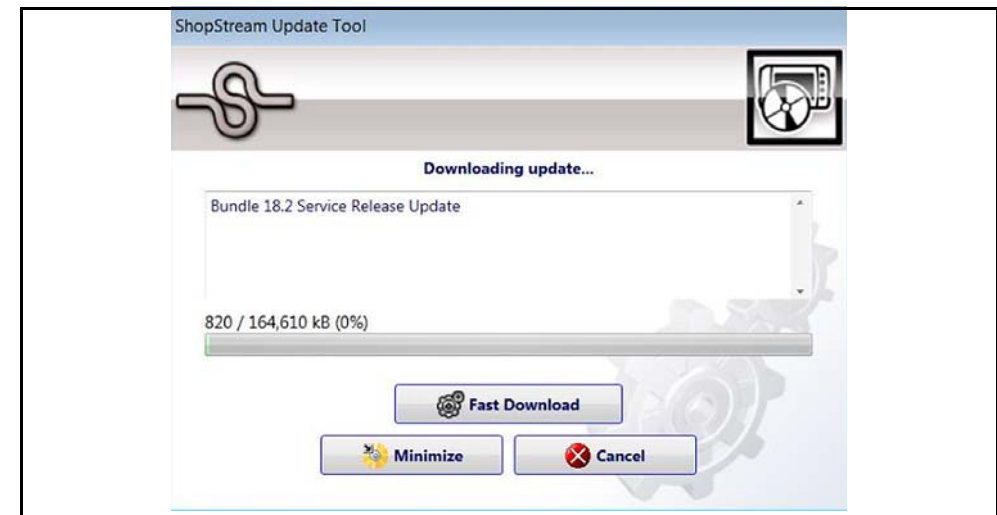

Figure 16-7 Typical - Update status window
- If updates are found, they will automatically begin to download (Figure 16-7).
To view the update status window (Figure 16-7), select **Show Progress** from the SST icon menu (Figure 16-5).
The percentage status bar may not always be displayed while downloading (Figure 16-7).
3. During an active download, three options are available from the update status window (Figure 16-7):